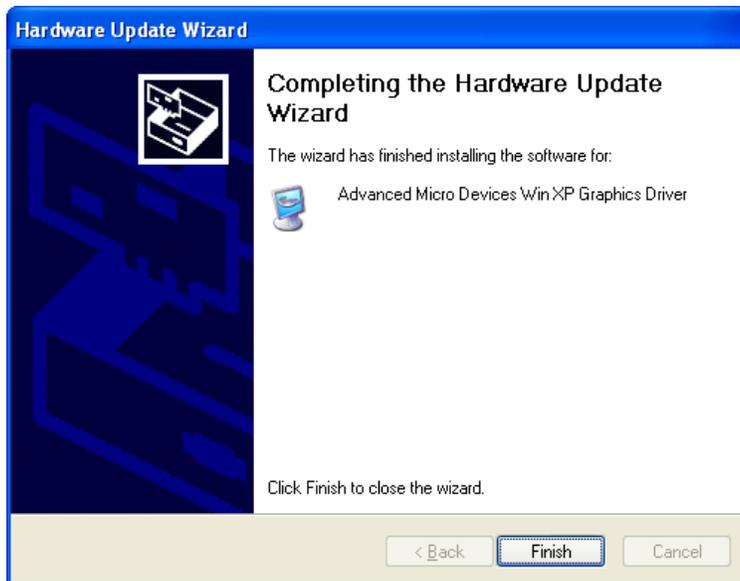

Figure 6-14: Driver Installation Complete Window
Step 22: After the driver installation process is complete, a confirmation screen appears (Figure 6-14).